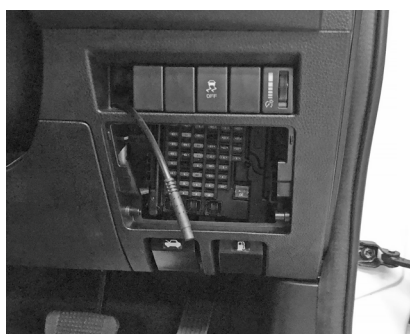

Fig. 6 Switch loom routing
2. Remove the switch blank from the desired location and feed the switch loom through this opening. (Fig. 6)
2. Connect the dashboard switch loom connector on the driving light harness (through the switch opening as shown in step 4 (Fig. 6) to the Smart Rocker Switch loom (Fig. 8).